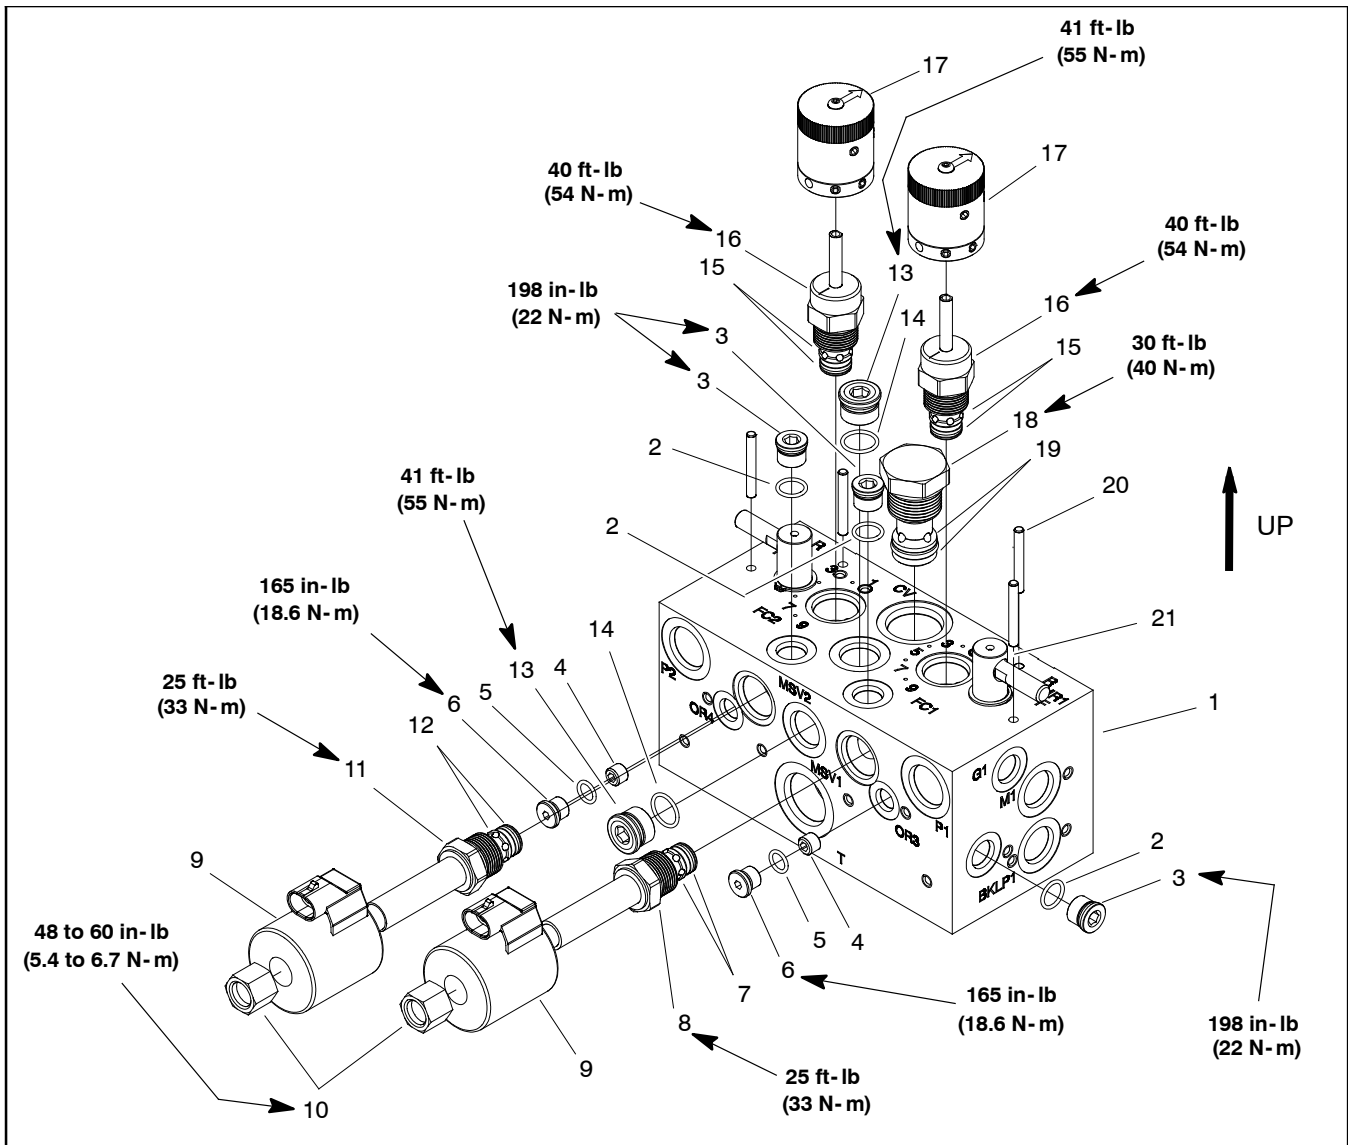

Figure 73
**NOTE:** The mow control manifold uses several zero leak plugs. These plugs have a tapered sealing surface on the plug head that is designed to resist vibration induced plug loosening. The zero leak plugs also have an O-ring to provide a secondary seal. If zero leak plug removal is necessary, lightly rap the plug head using a punch and hammer before using an allen wrench to remove the plug: the impact will allow plug removal with less chance of damage to the socket head of the plug. When installing plugs into the control manifold, torque plugs to the values identified in Figures 73 and 76.
C. Torque cartridge valve using a deep well socket to values identified in Figures 73 and 76.